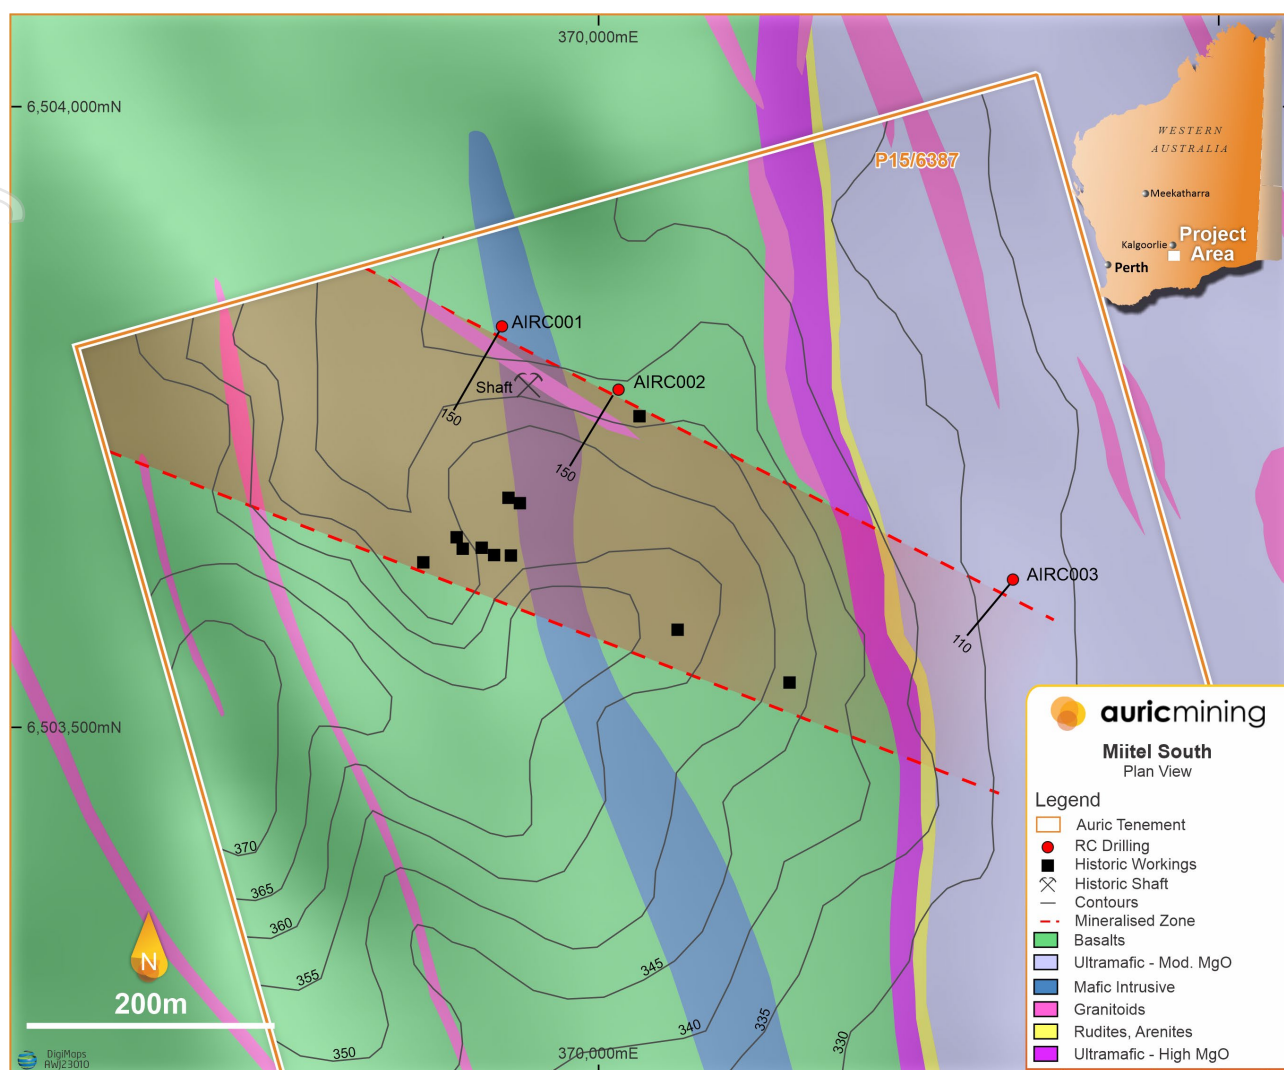

Figure 1. Miitel South Prospect and RC drill holes
**Auric Mining Limited (ASX: AWJ) (Auric or the Company)** provides the following update on recently completed drilling at the Company's Miitel South Prospect near Widgiemooltha-Norseman, Western Australia. Drilling was completed in February 2023 with 3 Reverse Circulation (RC) holes drilled for 410m (Figures 1 and 4).
The Miitel South drilling followed on from a program at the Company's Chalice West Project1. Planning envisaged 8 RC holes at Miitel South to target the gold mineralised trend shown in Figure 1 from both the north and south. However, access proved difficult. Only 3 of the planned holes were completed, all from the north, for a total of 410m.